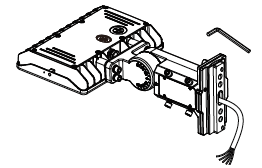

Fig. 15
3. Pass the cable through the second half of bracket and lock together (Fig. 15).